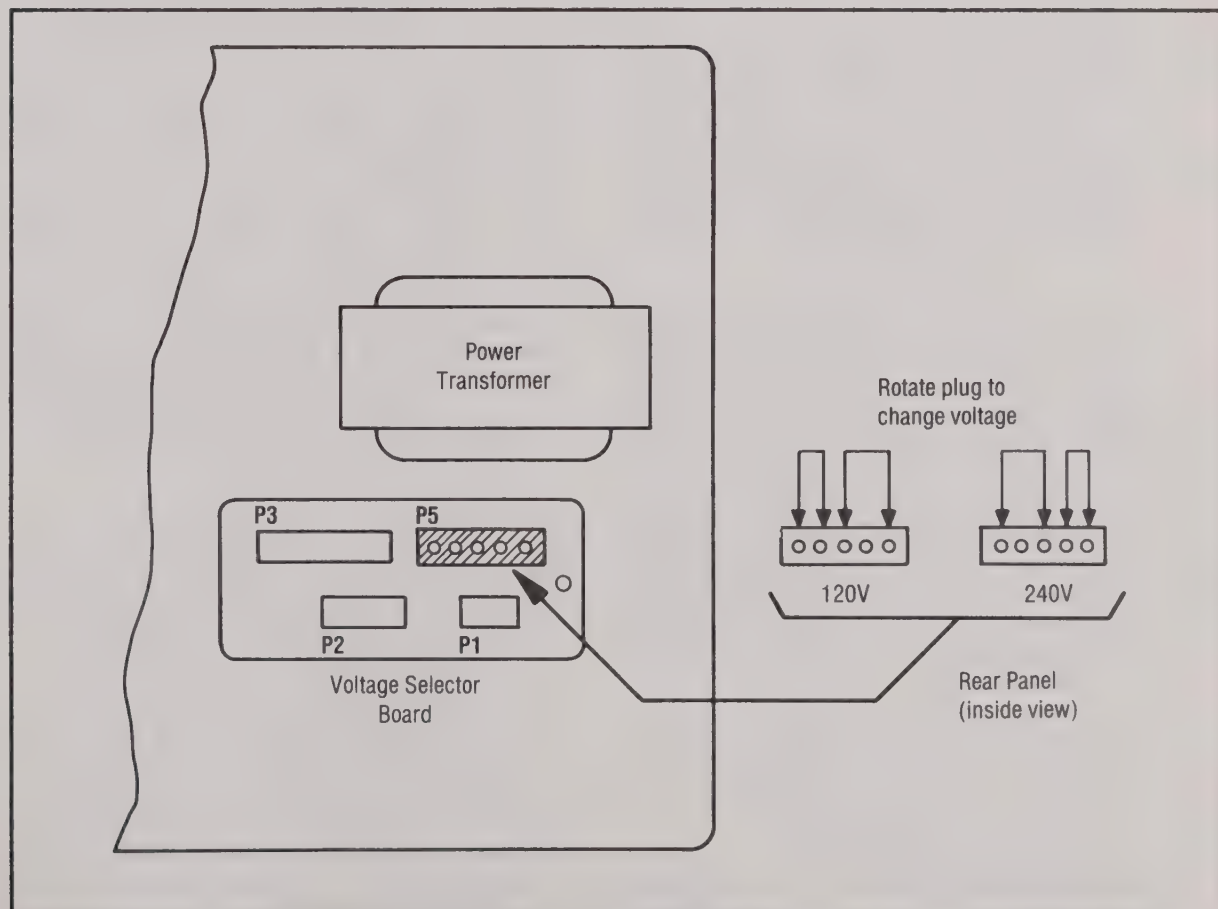

Fig. 21. AC Line Voltage Selection.
2. Remove voltage selector plug P5, which is located on the inside of the chassis wall (below the power transformer), as shown in Fig. 21.